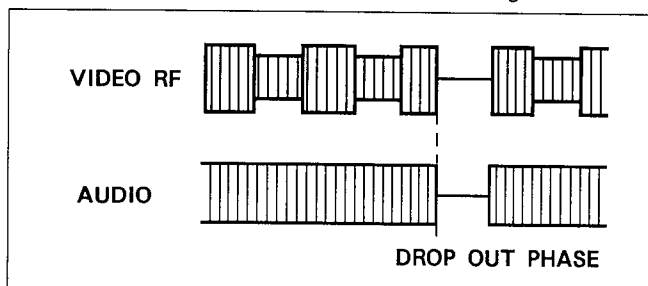
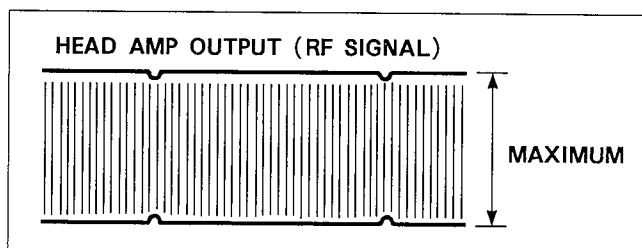

Figure M29
Figure M30
3. Adjust the A/C head horizontal position screw so that the phase of audio drop out and video RF envelope drop-out becomes the same as shown in Figure M29.
4. Adjust the Horizontal Position Screw (Figure M29) of A/C head so that the RF signal becomes maximum level as shown in Figure M30.